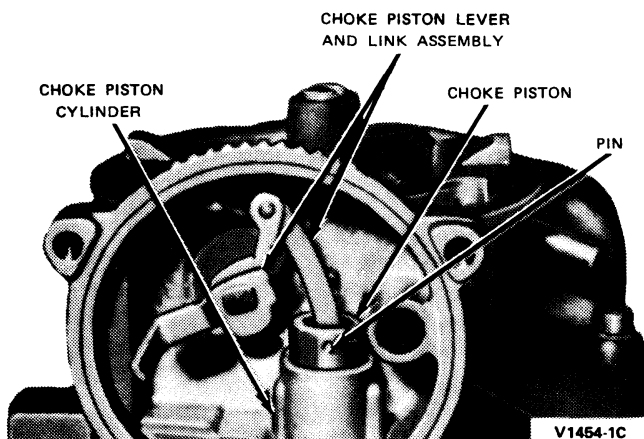

FIG. 13 Automatic Choke Piston Removal or Installation
attaching screw. Rotate the choke shaft and piston assembly counterclockwise until the choke piston is out of the choke piston cylinder (Fig. 13). Remove the assembly from the air horn. Remove the piston pin and piston from the choke piston lever and link assembly.
8. Assemble the choke piston and pin to the choke piston lever and link assembly. Install the choke shaft assembly in the air horn and position the piston as shown in Fig. 13.